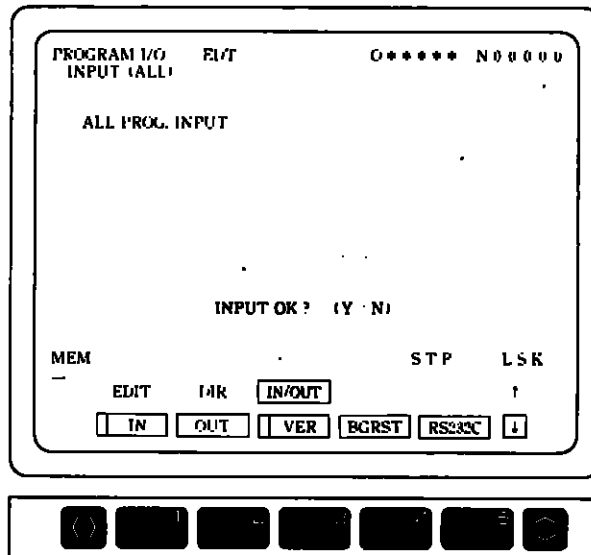

Fig. 3.4.38 ALL Input Screen
- 1 "ALL PROG. INPUT" and "INPUT OK? (Y/N)" are displayed as shown in Fig. 3.4.38: